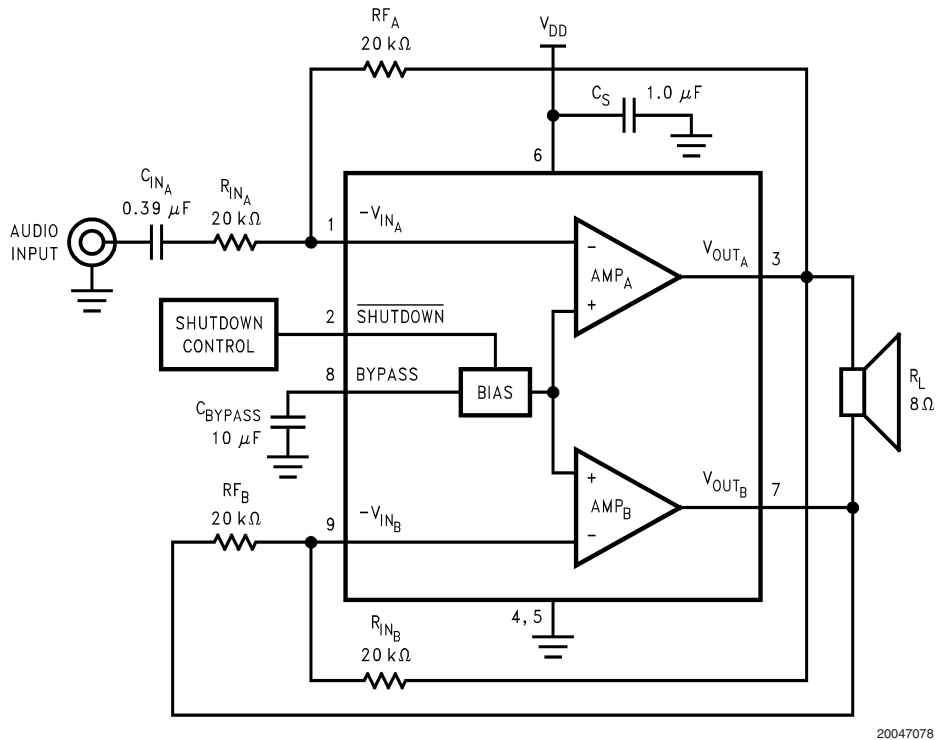

FIGURE 3. Typical LM4950 BTL Application Circuit
As shown in Figure 3, the LM4950 consists of two operational amplifiers that drive a speaker connected between their outputs. The value of external input and feedback resistors determine the gain of each amplifier. Resistors R_{IN_A} and R_{F_A} set the closed-loop gain of AMP_A, whereas two 20kΩ resistors set AMP_B's gain to -1. The LM4950 drives a load, such as a speaker, connected between the two amplifier outputs, V_{OUT_A} and V_{OUT_B} . Figure 3 shows that AMP_A's output serves as AMP_B's input. This results in both amplifiers producing signals identical in magnitude, but 180° out of phase. Taking advantage of this phase difference, a load is placed between AMP_A and AMP_B and driven differentially (commonly referred to as "bridge mode"). This results in a differential, or BTL, gain of
As shown in Figure 3, the input resistor (R_{IN}) and the input capacitor (C_{IN}) produce a high pass filter cutoff frequency that is found using Equation (7).
As an example when using a speaker with a low frequency limit of 50Hz, C_i , using Equation (7) is 0.159 μ F. The 0.39 μ F C_{INA} shown in Figure 3 allows the LM4950 to drive high efficiency, full range speaker whose response extends below 30Hz.